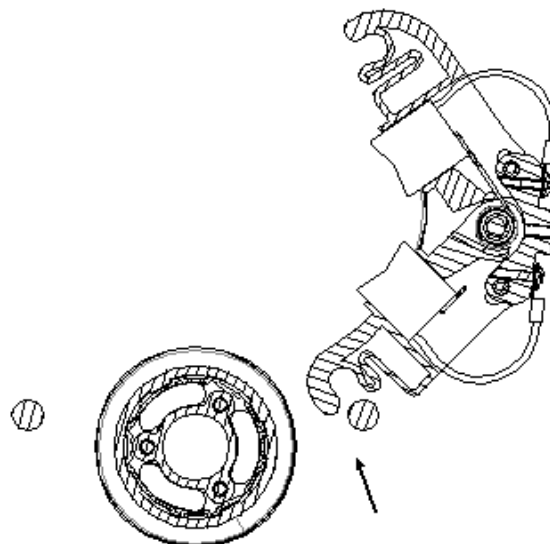

Fig. 21
-Unlock the brush holder (Fig. 21).